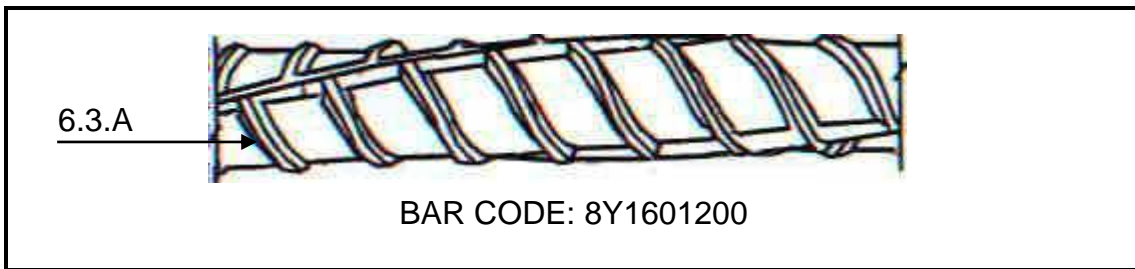

FIGURE 6.3
6.3 Answer the following questions with regard to the steel reinforcement in FIGURE 6.3.